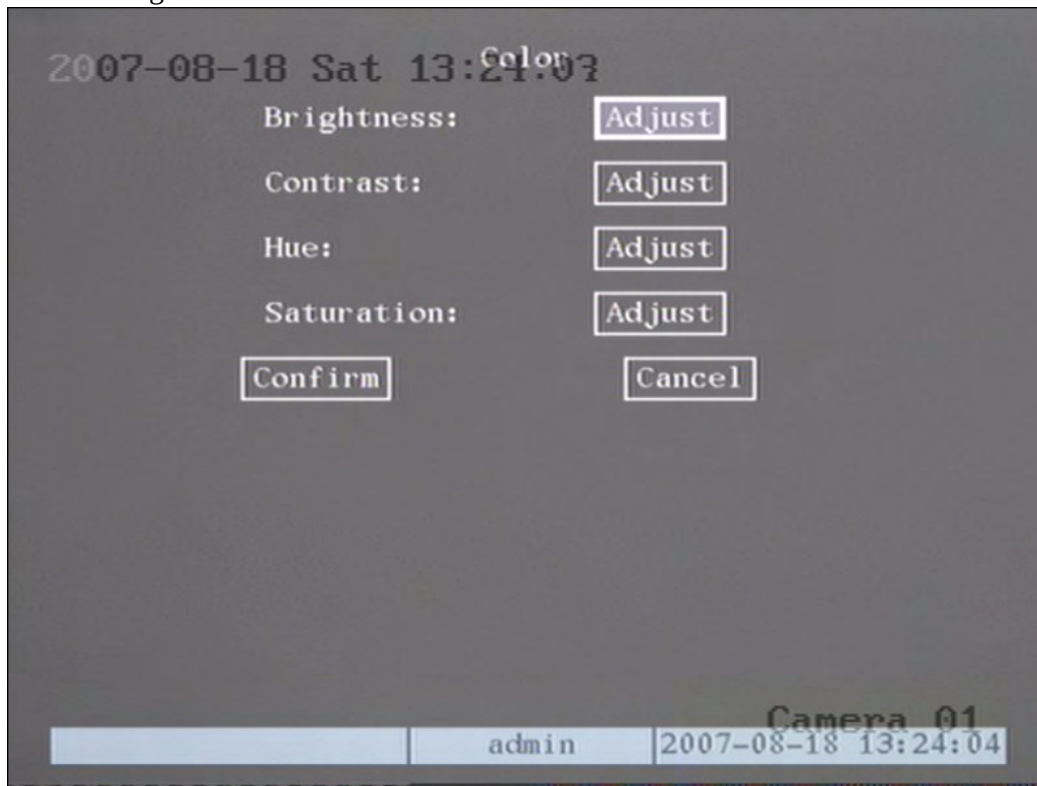

Fig 5.12 Color setup
Step 1: Enter into “Camera” ,select a camera then enter “Color setup” menu. Shown as fig5.12